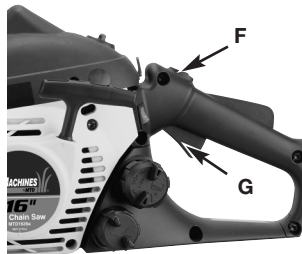

Fig. 7
7. Latch throttle advance: depress latch and hold (F) squeeze throttle trigger (G) release trigger and then the latch. (Fig. 7)